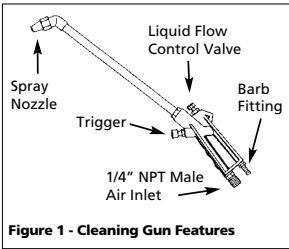

Figure 1 - Cleaning Gun Features
2. Corrosion	2. Disconnect hose from tool and add two drops of mineral spirits through the barb fitting on the tool after each use (See Figure 1)